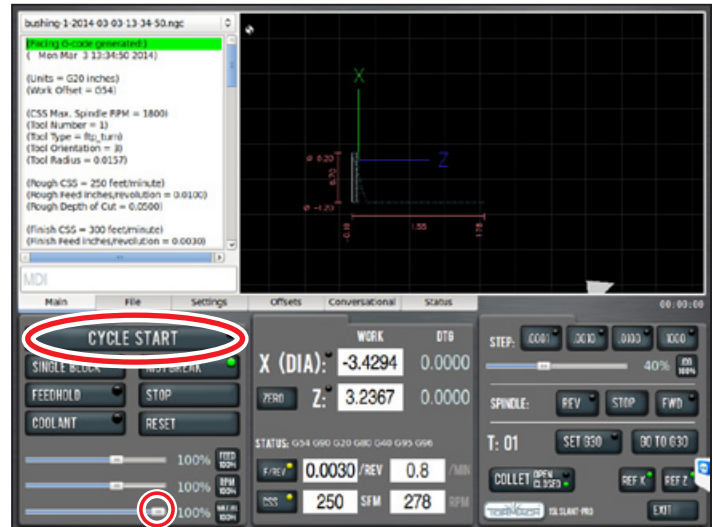

Figure 4.19
1. Go back to the *Conversational* screen and click on the *OD Turn* tab. Enter the values as shown in **Figure 4.19**.
2. After you have entered the values, click *Append to File* (see **Figure 4.19**).